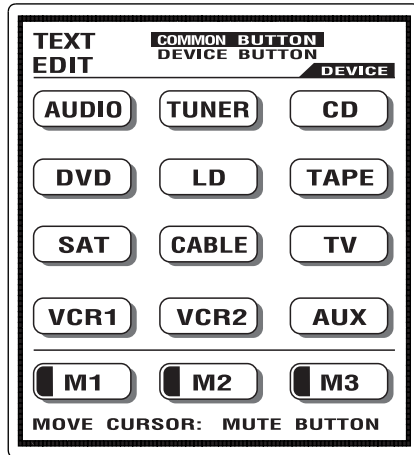

Figure 18
2. If you wish to write on the functional buttons, move the cursor to COMMON BUTTON with the MUTE button and select the device you wish to enter. Select the functional button you wish to write text. If you wish to write on the device buttons or on the M1, M2 and M3 buttons, move the cursor to DEVICE BUTTON and select the device button. Refer to figure 18.